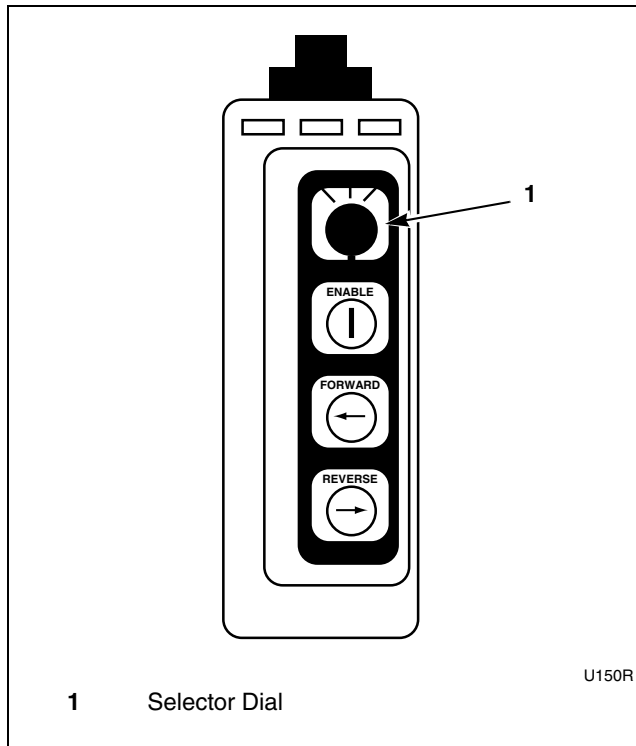

Figure 18
2. Turn the selector on the pendant switch left to the REVERSE position. Refer to *Figure 18*.
2. Turn the selector on the pendant switch right to the FORWARD position. Refer to *Figure 18*.